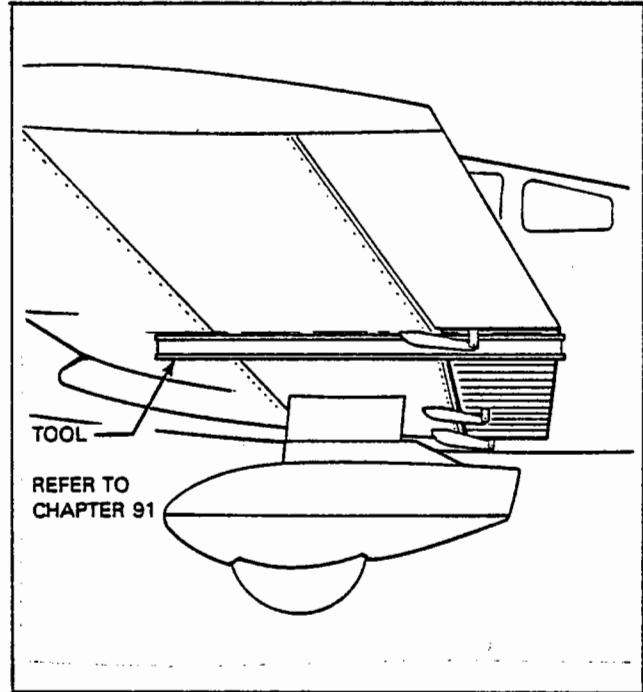

Figure 27-24. Flap-Rigging Tool
6. To check the up-neutral position of the flaps place a flap rigging tool as shown in Figure 27-24 against the underside of the wing and flap as close as possible to the outboard end of the flap without contacting any rivets. (Refer to Chapter 91 for dimensions to fabricate this tool.) The tool must be positioned parallel with the wing ribs, with the aft end of the tool even with the trailing edge of the flap.